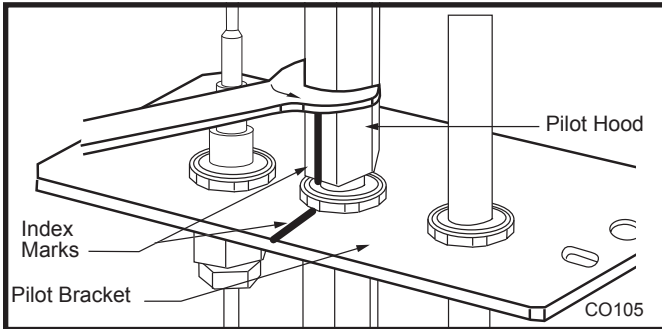

Fig. 63 Remove pilot hood. (Your pilot may have a different appearance.)
- Loosen pilot hood turning counterclockwise using a 7/16" wrench. (Fig. 63)